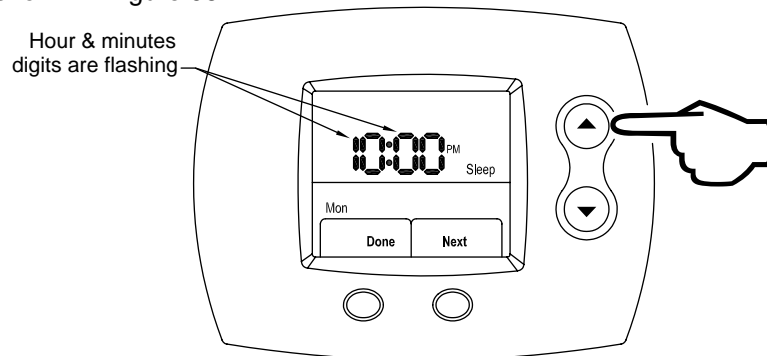

Figure 96
Step 22: Press the **UP** (increase time by 15 minutes) or **DOWN** (decrease time by 15 minutes) buttons to edit the Sleep period start time. The time increments in 15-minute intervals just as it did for the previous periods. This is shown in Figure 96.